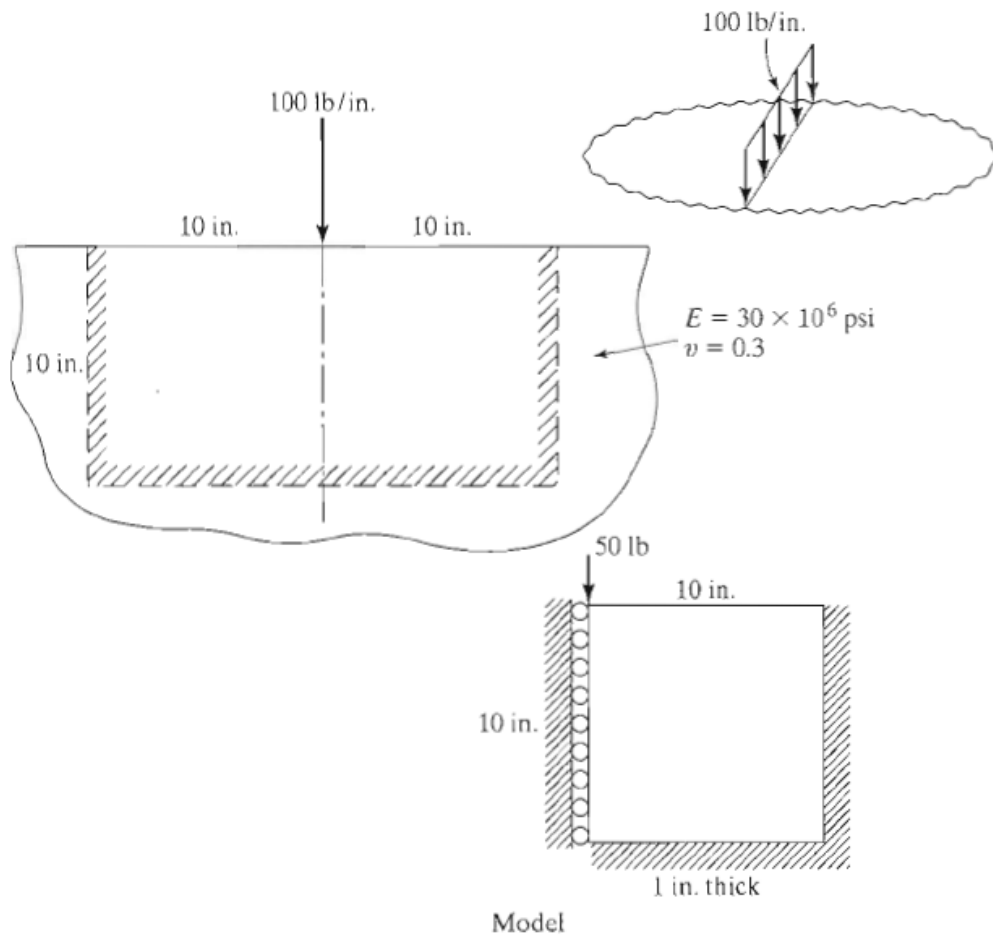

Figure 2
**Problem 2:** A large, flat surface of a steel body is subjected to a line load of 100 lb/in. Consider an enclosure as shown in Fig. 2 and determine the largest deformation of the surface and the maximum von Mises stress.